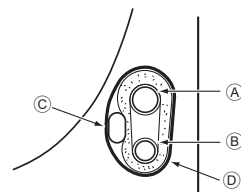

Fig. 4-4
4.3.1. Storing in the piping space of the unit (Fig. 4-4)